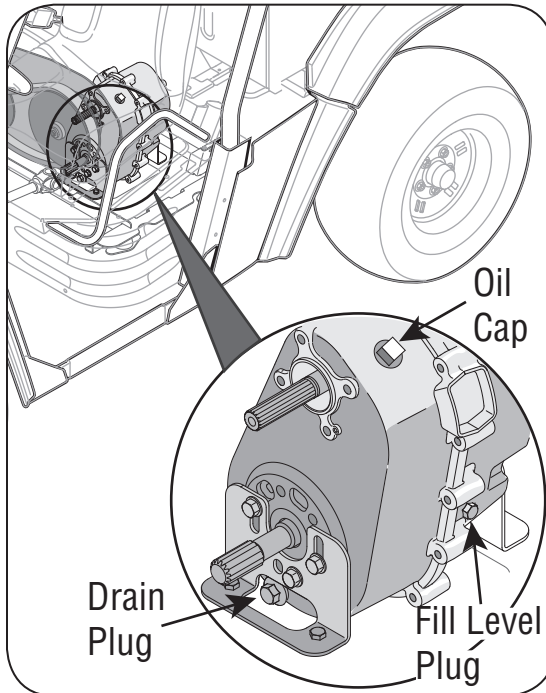

Figure 9
4. Access drain plug through slot on underside of machine and remove plug. See Figure 9.
NOTE: If necessary, you may remove the fill level plug to assist with determining the level to which the transmission may be filled. See Figure 9. When oil begins coming out of fill level opening, the transmission is full. Replace fill level plug when finished.